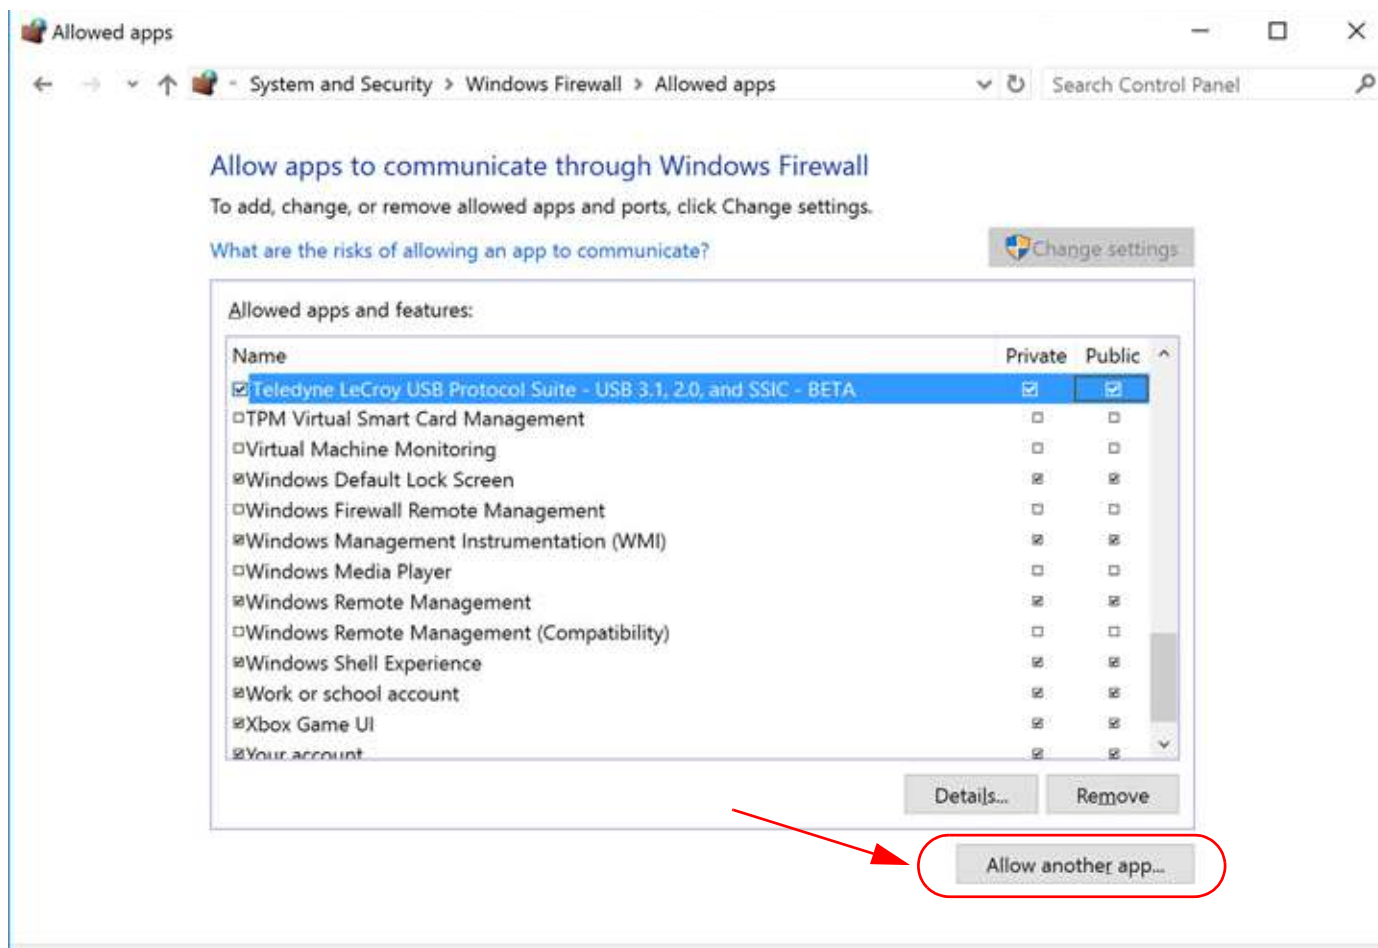

Figure 3.9: Windows Server 2016/2019: Add Teledyne LeCroy USB Protocol Suite to Allowed Applications
10. After the Application has been added, you can see it in the “Allow apps to communicate through Windows Firewall” screen. See Figure 3.9.